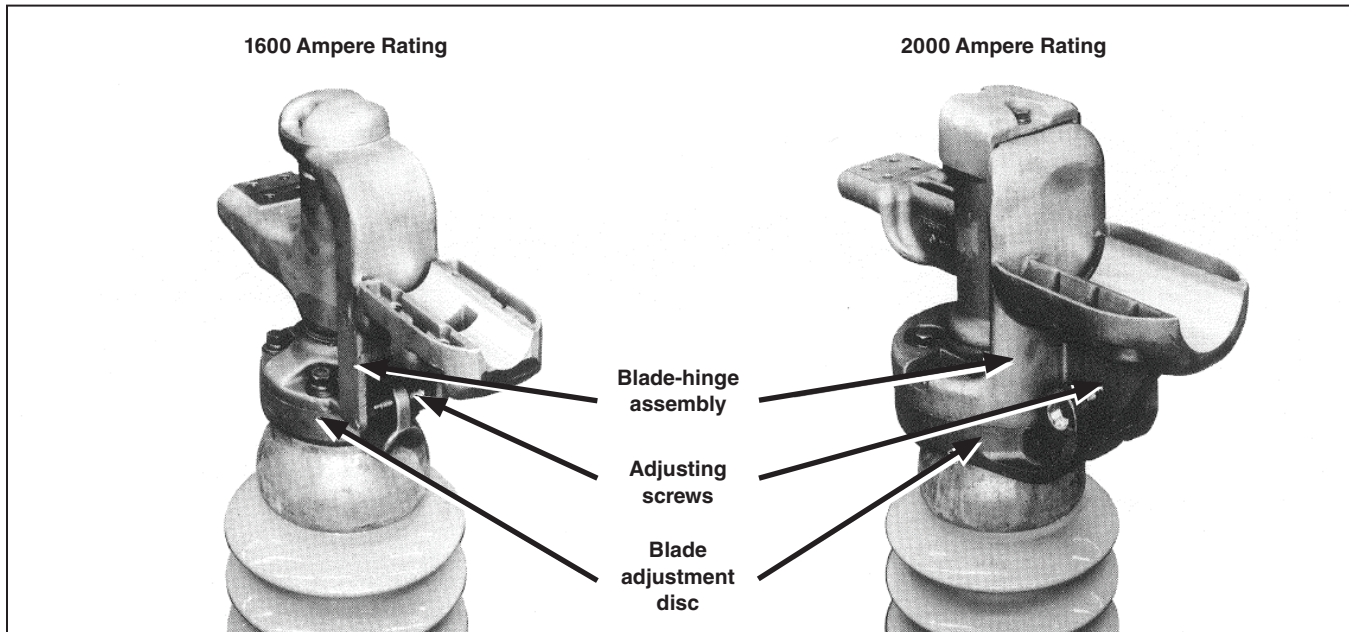

Figure 7. The blade adjusting screws.
- (b) Loosen the adjusting screws at both blade-adjustment discs. See Figure 7 for an illustration of the terminal-end blade adjusting screws.